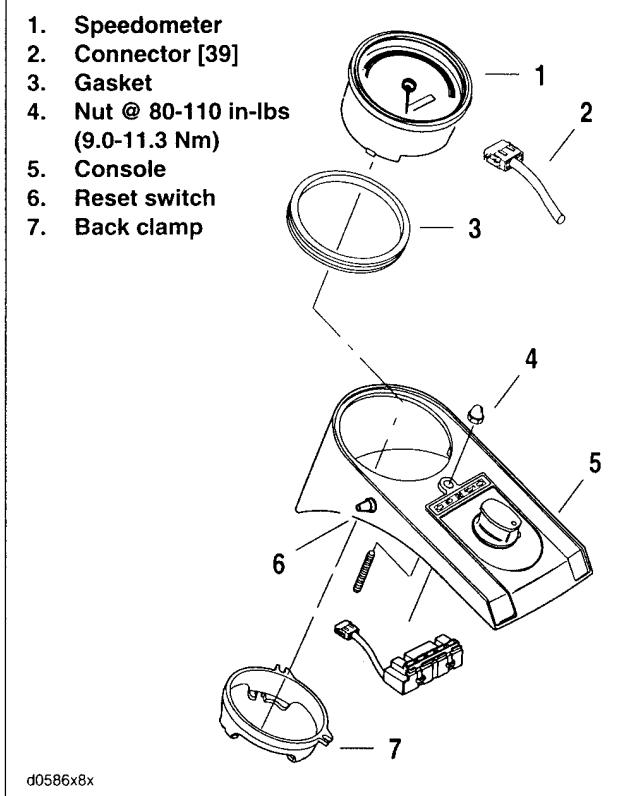
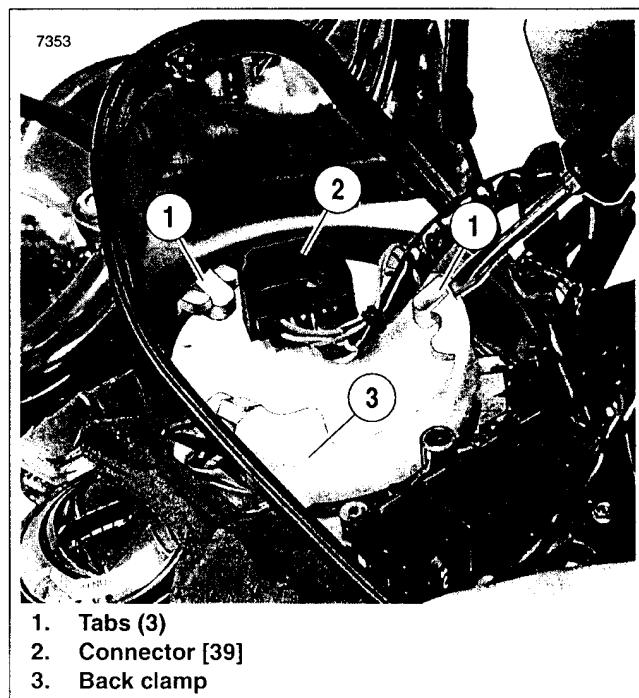

Figure 8-53. Speedometer: FXDWG
Figure 8-54. FXDWG Connector [39]
1. See Figure 8-53. Remove nut (4) and lift console (5) from fuel tank.
3. Depress connector tab and disconnect 12-place harness connector (2) [39] from speedometer under console.
4. Unscrew the rubber boot from the odometer reset switch (6) on the left side of the console.
6. See Figure 8-54. Pry between three tabs and speedometer with a screwdriver to raise and release back clamp from speedometer. Remove back clamp from speedometer.
7. See Figure 8-53. Remove speedometer from console.
8. Remove gasket (3) from speedometer.
1. See Figure 8-53. Install gasket (3) to speedometer.
2. Position speedometer in console (5).
3. See Figure 8-54. Press on back clamp (3) until three tabs engage on back of speedometer.
4. See Figure 8-53. Insert odometer reset switch (6) through hole in console and install rubber boot.
5. Connect 12-place connector (2) [39] to speedometer under console.
6. Remove shop rags and install console to fuel tank with nut (4). Tighten to 80-100 in-lbs (9.0-11.3 Nm).